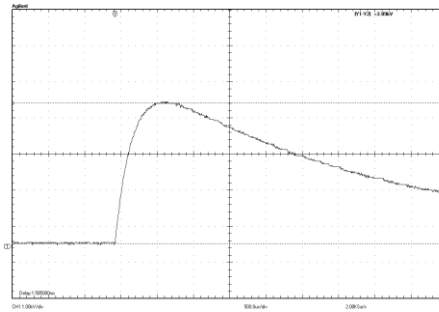

Figure 6. Vpeak = 3.88kV with 25mH inductor
- b. V_{peak} about 3.88KV, see figure 6 (When selected inductor is 25mH).